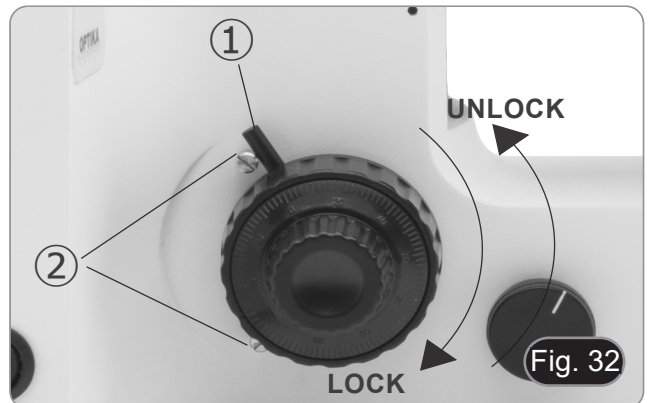

Fig. 32
- After focussing the specimen, pull the lever ① toward the front of the microscope and lock it. (Fig. 32).
- Two stoppers ② are inserted on the frame. DO NOT REMOVE THE TWO STOPPERS.**